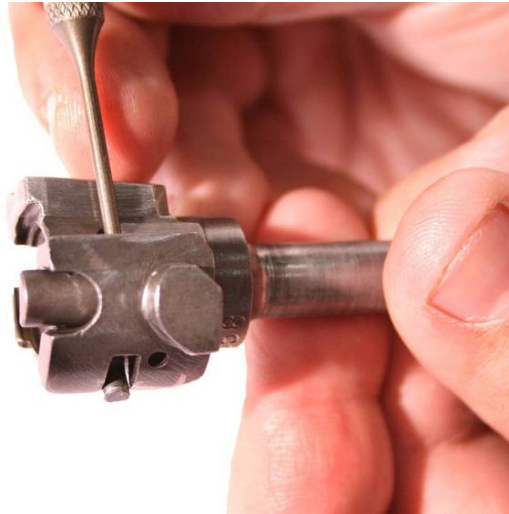

Figure 4. Removing the Extractor Retaining Pin from Bolt.
3. Use a punch and a hammer to drive out the extractor retaining pin. Before removing the punch, cover the extractor with a finger. Refer to Figure 4.